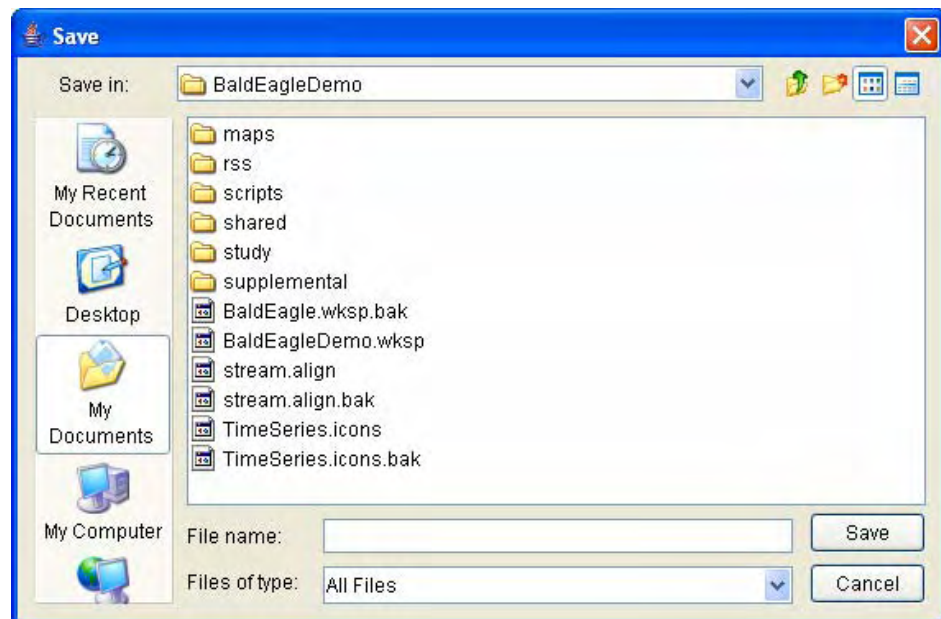

Figure 2.35 System Save Browser (for Saving a File)
7. Once you have chosen your desired options, click **OK** and the **System Save Browser** (Figure 2.35) will open.